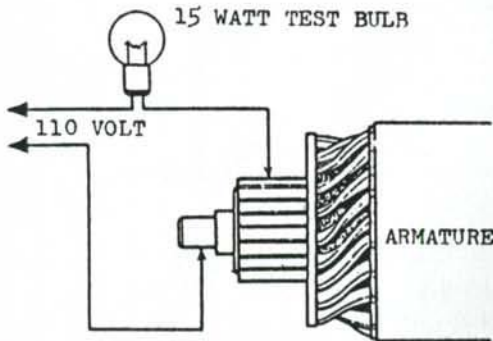

Fig. 75—When checking armature winding insulation, each commutator segment must be checked separately.
87. ARMATURE INSULATION TEST. Armature insulation can be tested by using a 110 volt, 15 watt, AC current test light connected as shown in Fig. 75. Touch each commutator segment in turn with test light lead. If test light comes on at any segment, windings are shorted and must be repaired or renewed.
93. ARMATURE INSULATION TEST. Armature insulation can be checked by using a 110 volt, 15 watt test light connected as shown in Fig. 75. Touch each commutator segment in turn with test light lead. If test light comes on at any segment, windings are shorted and armature must be repaired or renewed.